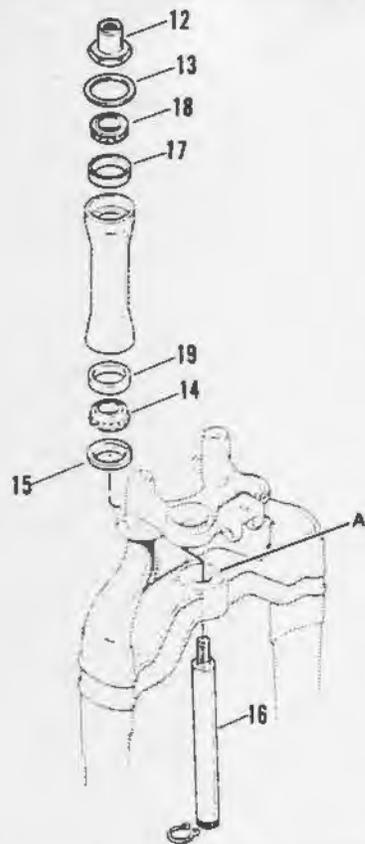

Figure 2-81. FXSTS, FXSTSB, FLSTS Steering Head Assembly
2. See Figure 2-81. Remove upper bearing dust shield (13) and bearing (18).